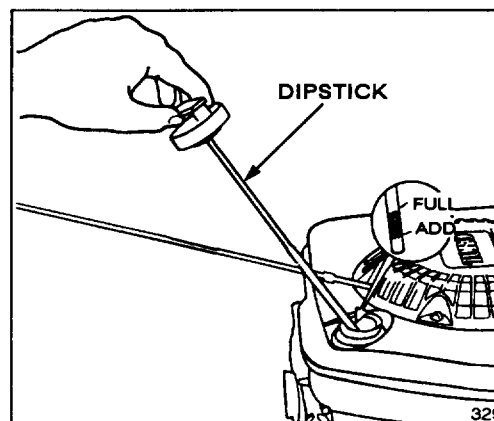

Figure 6
Before each use, ensure oil level is between FULL and ADD marks on dipstick (Fig. 6). Add oil if level is low.
3. Wipe dipstick and insert it into filler neck. Rotate cap clockwise 1/4 turn. Then remove dipstick and check level of oil on side of dipstick with FULL and ADD marks (Fig. 6). If level is low, add only enough oil to raise level to FULL mark on dipstick. **DO NOT FILL ABOVE FULL MARK BECAUSE ENGINE COULD BE DAMAGED WHEN STARTED. POUR OIL SLOWLY.**
1. **CHECK OIL LEVEL**—Maintain oil level between ADD and FULL marks as shown on dipstick (Fig. 6).